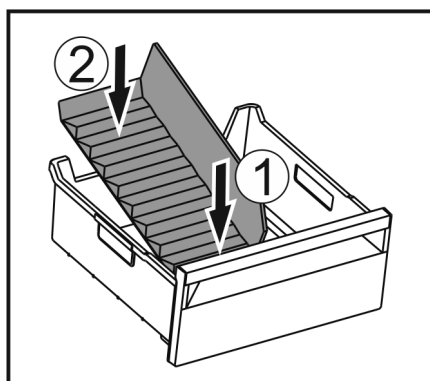

Fig. 170
- Insert the front part of the ice compartment divider. Fig. 170 (1)
- Lower the rear part of the ice compartment divider to the drawer bottom. Fig. 170 (2)